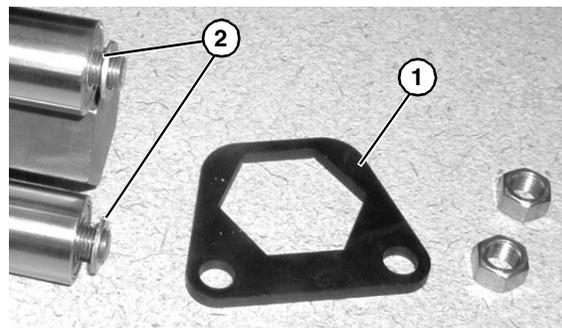

Figure 59
6. Remove support plates (**Figure 59, item 1**) and washers (**Figure 59, item 2**).